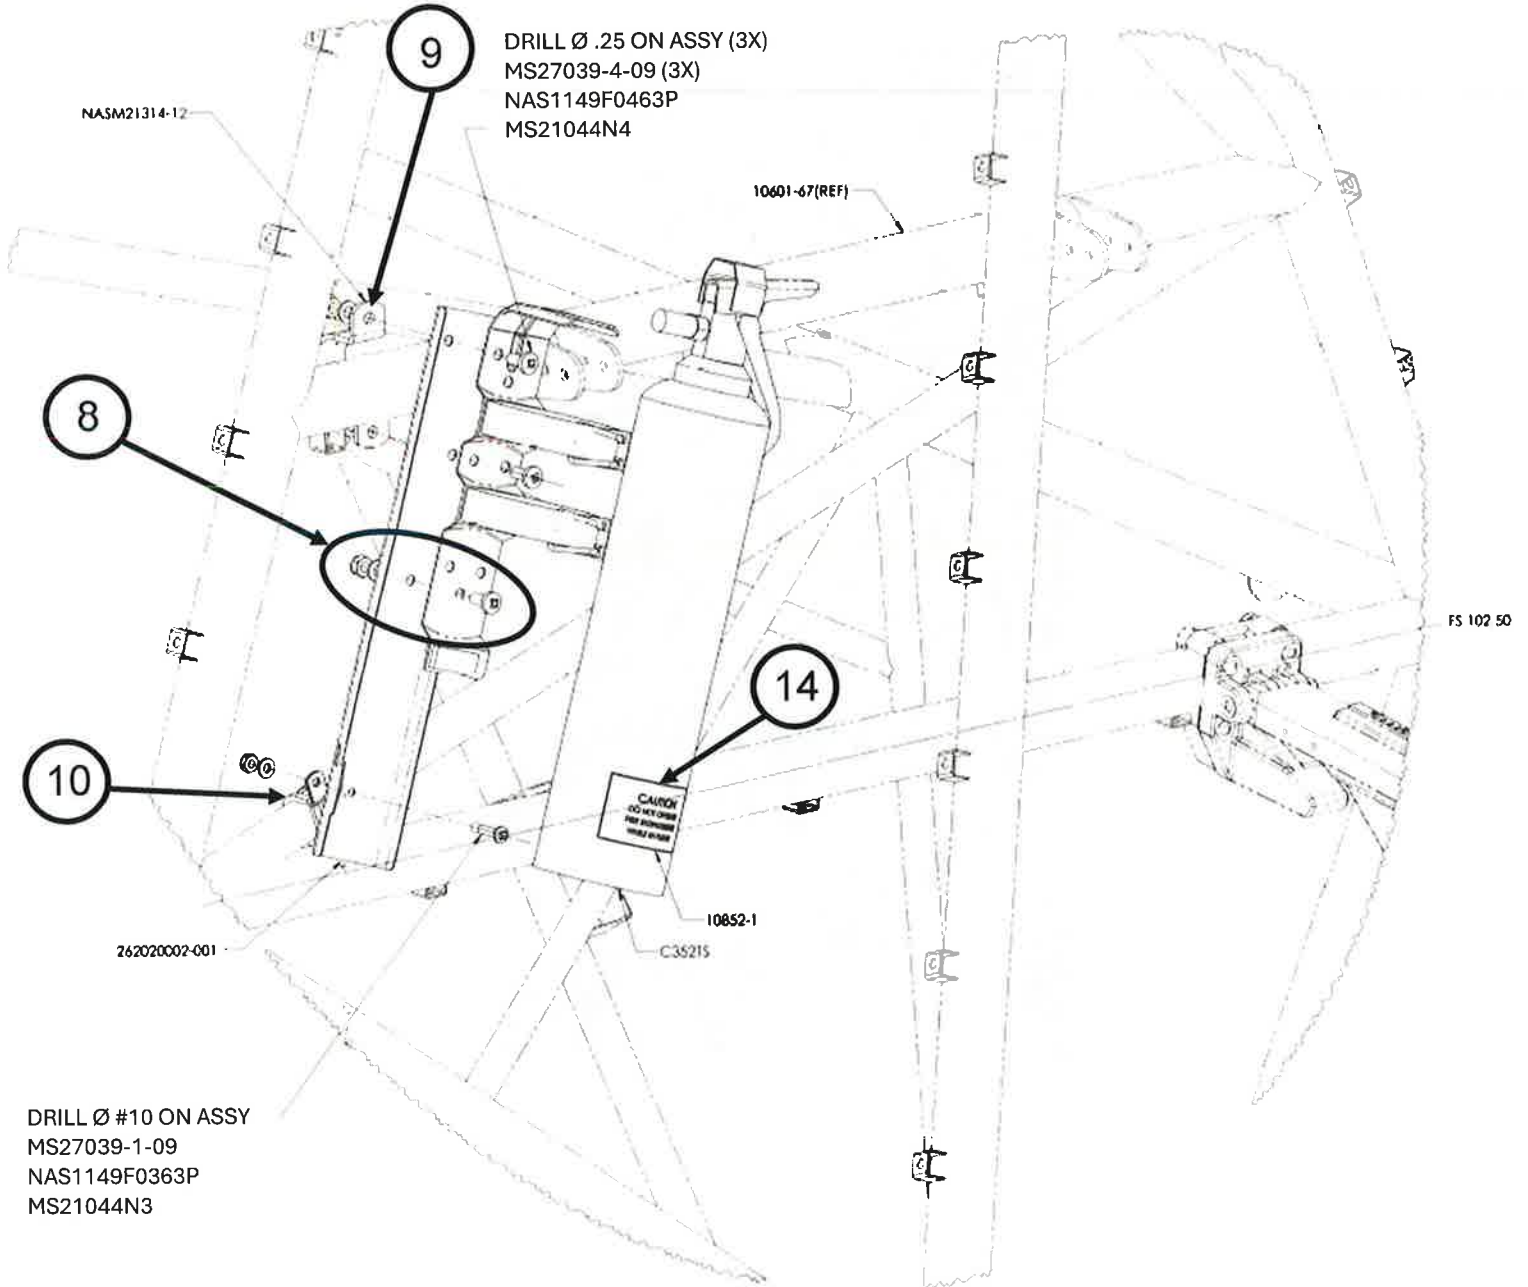
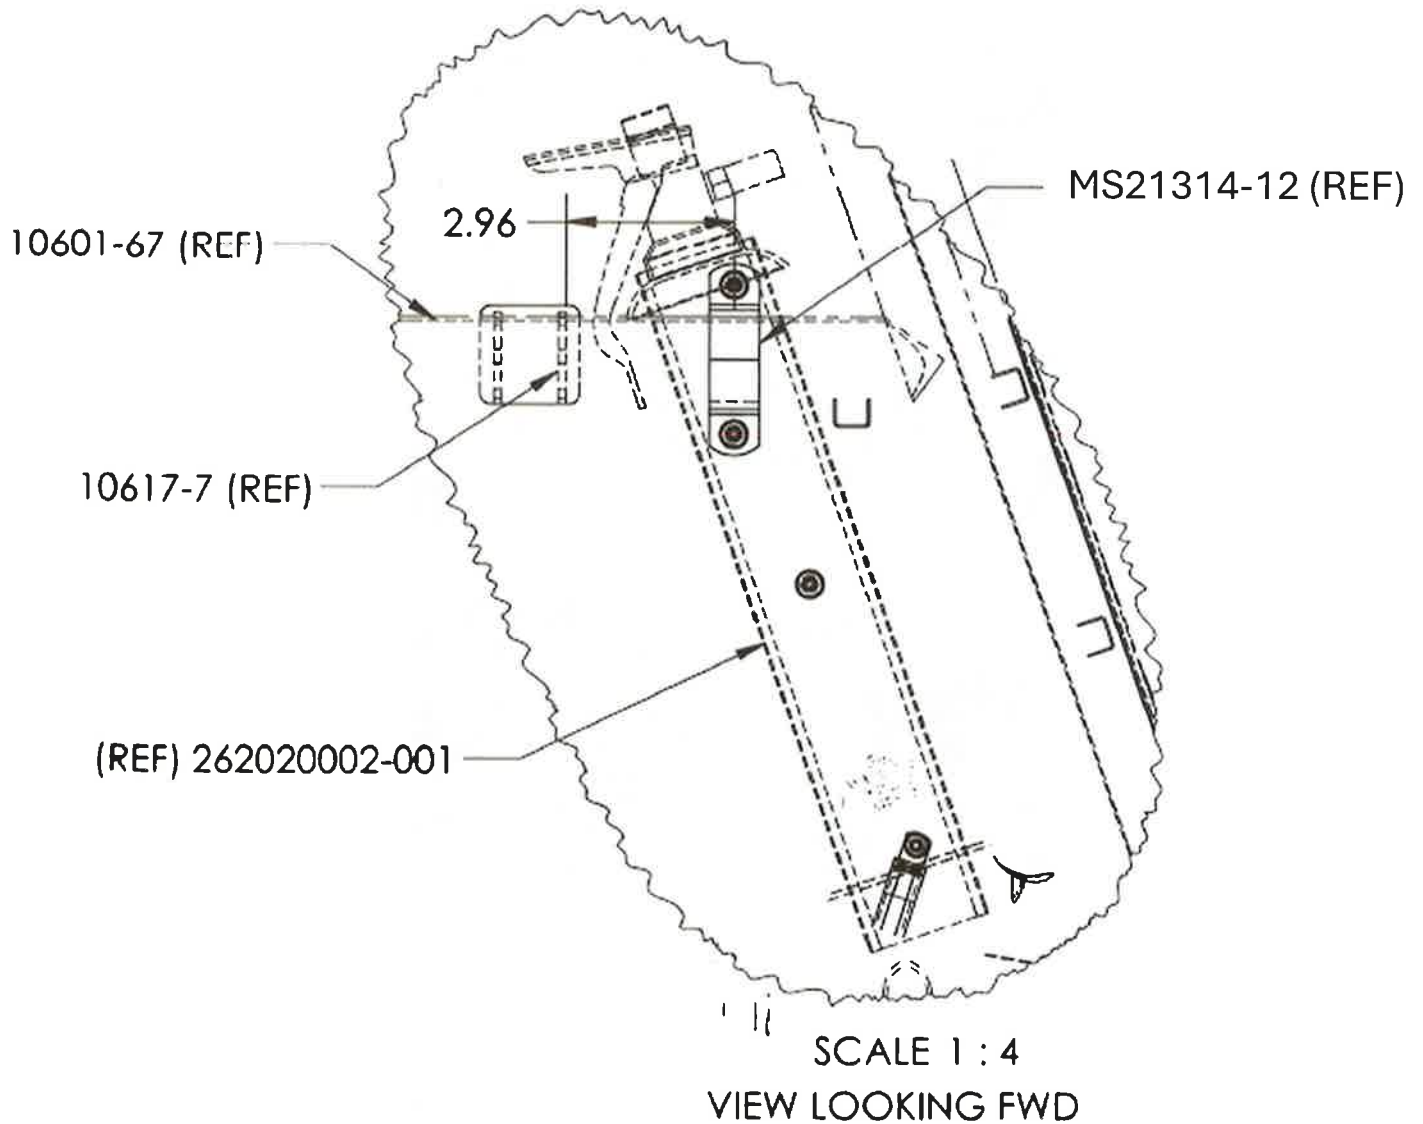

Figure 8-3
Figure 8-4
8. Install the appropriate hardware in the hole that only attaches the red mount to the white bracket. (Reference Figure 8-3)
9. Inside the cockpit, locate the retaining strap (MS21314-12) on the horizontal fuselage tube and install the bracket/mount assembly using the appropriate hardware as shown in Figure 8-4. (Also reference Figure 8-3)
10. Locate the clamp (MS21919WDG16) on the diagonal fuselage tube, as far to the right as possible as shown in Figure 8-5. (Also reference Figure 8-3)
13. Install the white bracket to the clamp using the appropriate hardware as shown in Figure 8-3. (Also reference Figure 8-5)
14. Install the black and white CAUTION placard (10852-1) on the fire extinguisher as shown in Figure 8-3. (Also reference Figure 8-6)